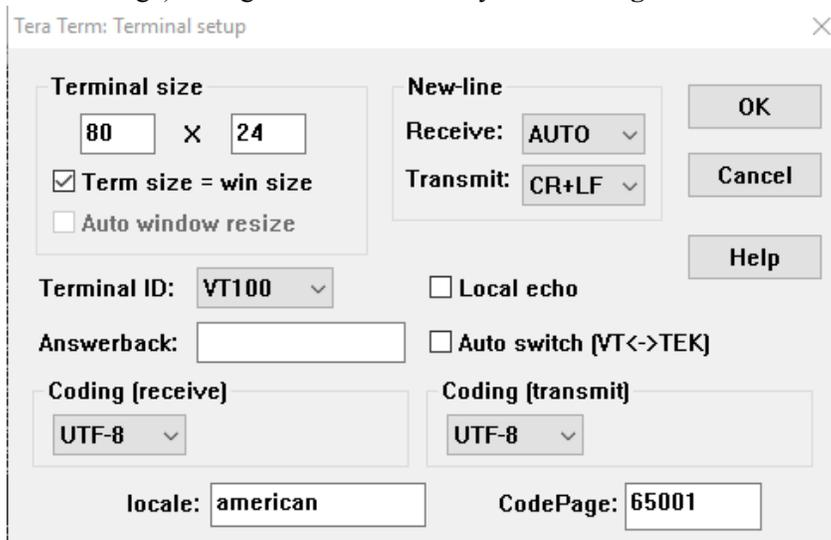

Figure 1: Terminal Config
7. In the window labeled with the aforementioned port, Navigate to Setup->Terminal and (other than the CodePage) configure the terminal as you see in **Figure 1**.